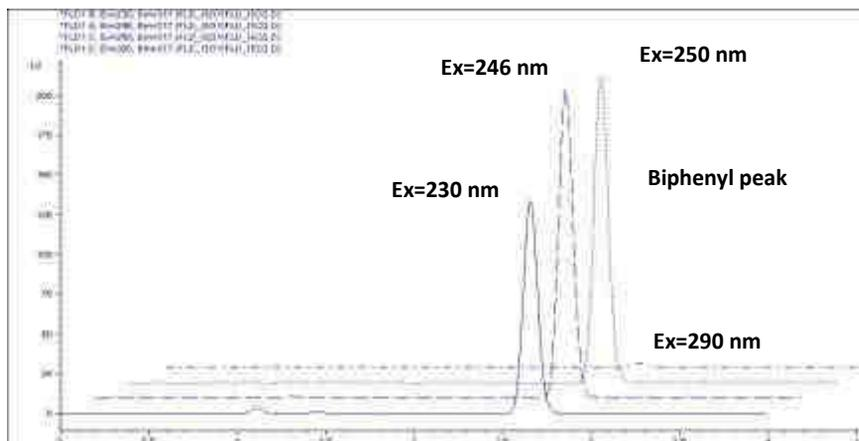

Figure 8 Biphenyl peak with different excitation wavelengths
- 4 The resulting chromatograms are shown in Figure 8:
In the second run, three setpoints for emission wavelengths are entered into the time-program and excitation spectra are recorded, as shown in figure 8. The area of high intensity (red) is caused by stray light when emission spectra overlap with the excitation wavelength. This can be avoided by fitting the spectral range automatically. Excitation at 260 nm is most appropriate for all PNAs.